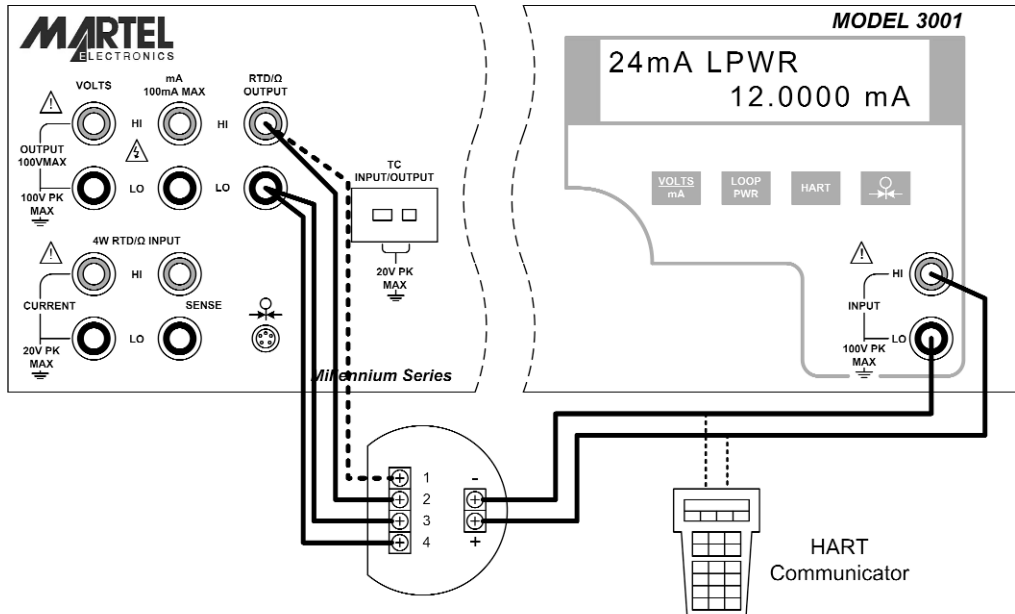

Figure 24 - RTD Transmitter Application
4. Connect the transmitter as shown in figure 24.